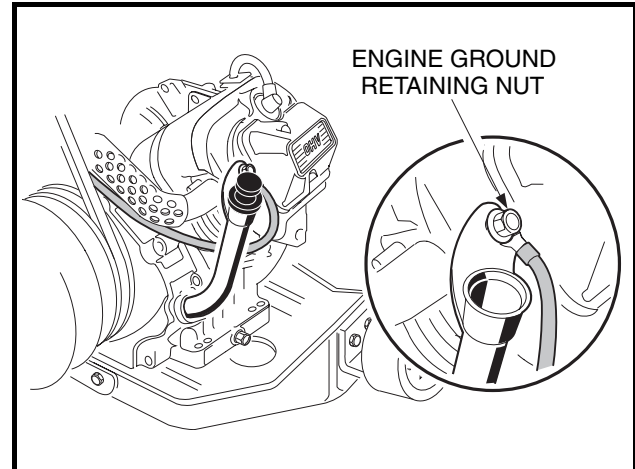

Figure 11-10 Engine Ground Cable Test
- 3.1. Place the red (+) probe of the multimeter on the ground cable terminal end located on the oil filler bracket on the engine (**Figure 11-10, Page 11-16**). Place the black (-) probe on the vehicle frame. The reading should be continuity. If the reading is incorrect, clean and tighten cable connections. If the connections are good and the reading is incorrect, repair or replace the cable.